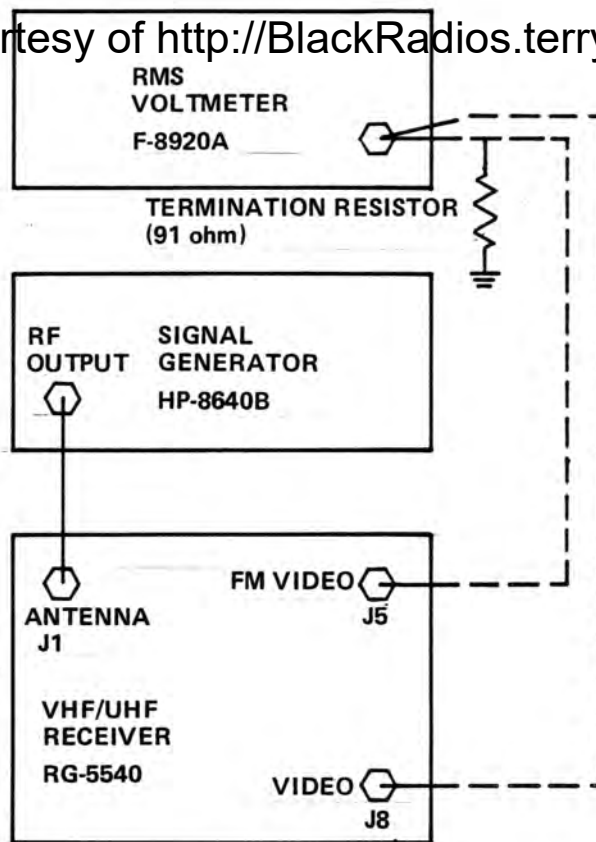

Figure 5-4. Video Output Test
1. Connect signal generator and RMS voltmeter as shown in Figure 5-4 with RMS voltmeter connected to FM VIDEO-J5.